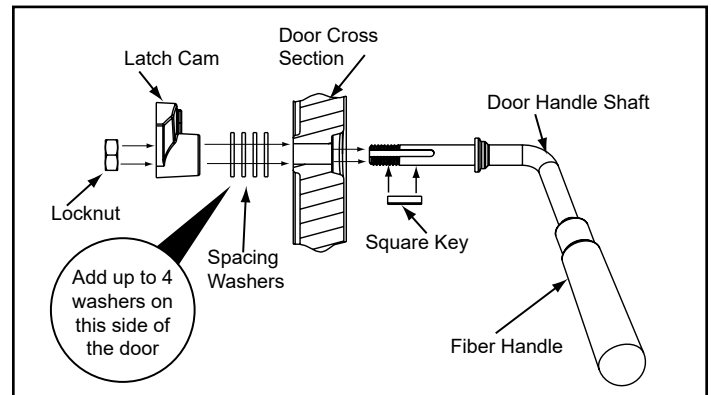

Figure 21.4
2. Install additional washer(s) as shown in **Figure 21.4**
6. Install fiber handle (**Figure 21.4**).